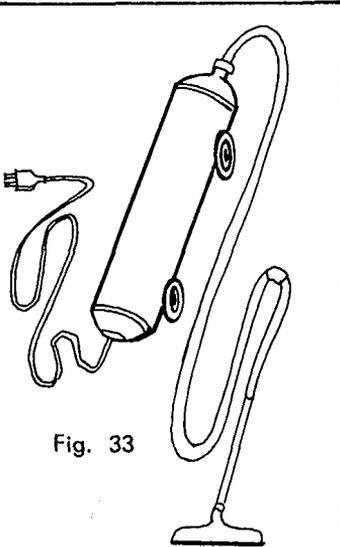
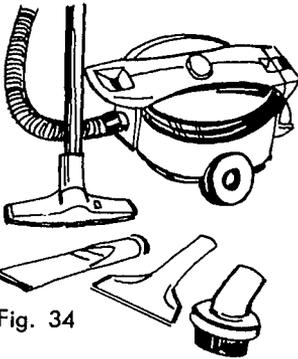
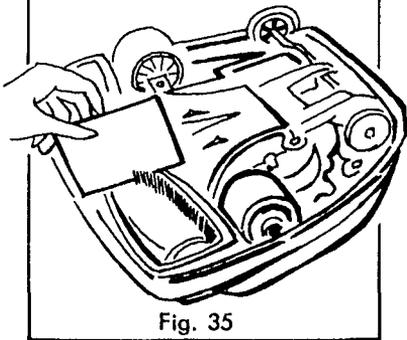

Fig. 33
Fig. 34
Fig. 35
There are three general types of cleaners, the cylinder type, Fig. 33, the canister type, Fig. 34, and the upright type, Fig. 35. The cylinder and canister types are always straight suction cleaners. The upright, Fig. 35, may have a revolving brush or roll to sweep or vibrate the rug.
**Remedy:** Find the nozzle adjustment on your cleaner and adjust according to manufacturer's directions. On cleaners with a rotating brush or roll, the clearance between the cleaner nozzle and the rug should be the thickness of a half-dollar. Fig. 35.
**Remedy:** Hold machine with nozzle up, lay a ruler or piece of stiff cardboard over the nozzle. The bristles should not quite touch the ruler; a space of 1/32-inch is desirable. The adjustment is usually made by moving a pin, screw or lever at each end of the brush. Fig. 35.
Remedy: Examine the belt. Fig. 35. Make sure it is around both the brush and motor shaft and is not tangled with hair and strings. If, after cleaning the brush, it still will not turn with the motor, the belt is probably stretched and should be replaced with a new belt.
1. Lubrication: Most cylinder-type cleaners, Fig. 33, and many upright cleaners, Fig. 35, have bearings which are sealed and packed with grease at the factory. These types require no lubrication but should be inspected at least yearly by a competent serviceman. If any unusual noise develops in these cleaners they should be taken immediately to a serviceman, dealer, or manufacturer for inspection. Some upright cleaners of the type shown in Fig. 35 have oil holes. Oil these cleaners yearly with 3 or 4 drops of electric motor oil. An occasional drop of oil on the wheel bearings of the cleaner is desirable.